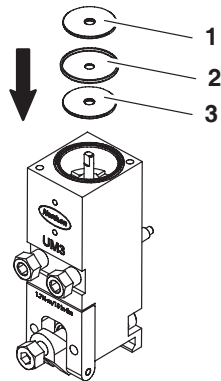

Figure 21 Installing the piston washers and seal
9. See Figure 21. Insert the piston washers and seal into the bore.